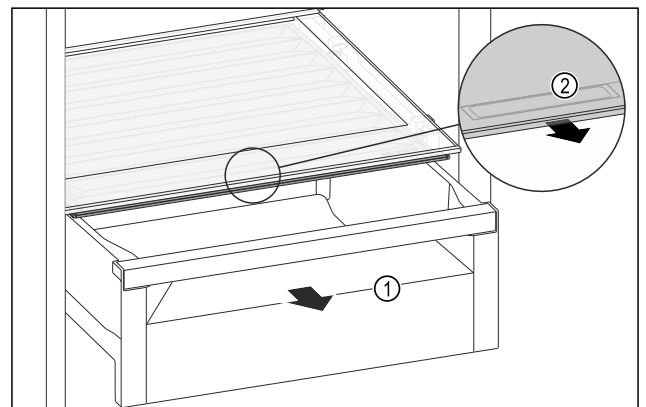

Fig. 193
- Pull out the drawer Fig. 193 (1).
- Grasp the recessed grip Fig. 193 (2) on the compartment lid and pull the compartment lid forwards at the same time.